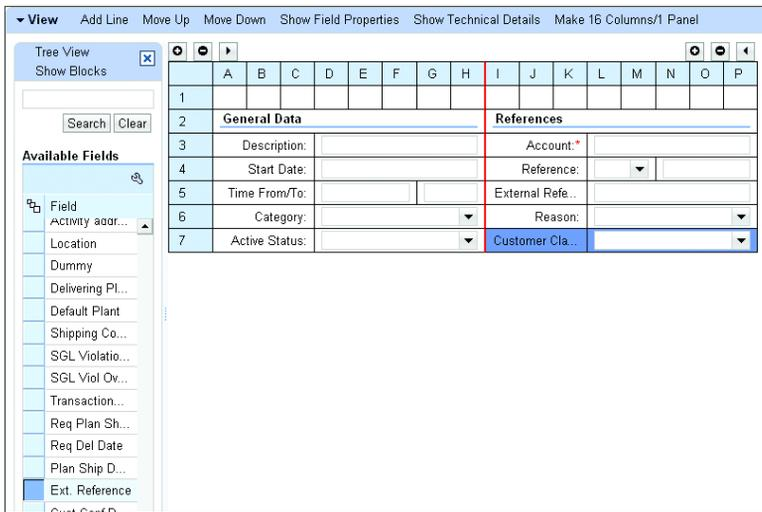

Figure 8.64 Custom Field Added to the Activity Details View
7. The CUSTOMER CLASS field created is available in the list of available fields. Bring that field to the ACTIVITIES details view, as shown in Figure 8.64. Save the changes.